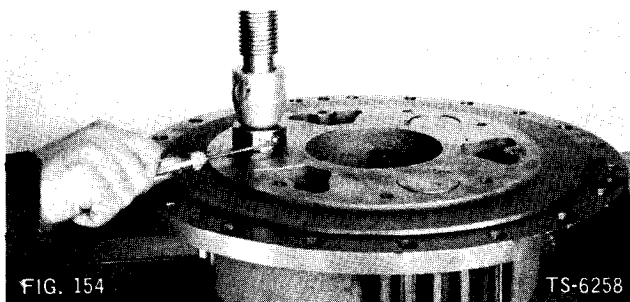

FIG. 154
3. Press in pinion shaft, making sure the pinion shaft ball recess aligns with groove in spider. Insert pinion shaft ball and complete press (Fig. 154). Press end of pinion shaft flush with face of carrier.